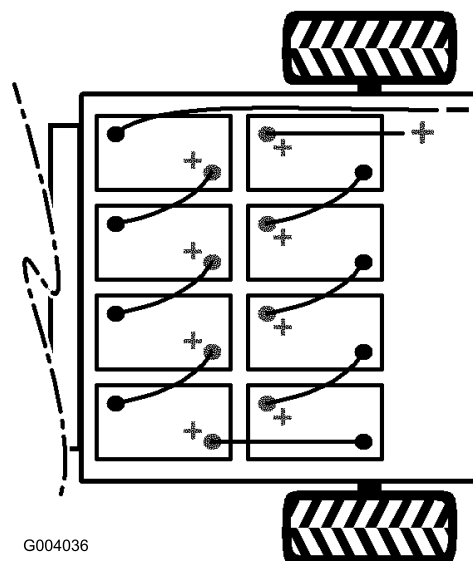

Figure 29
2. Disconnect the long, black, main negative lead running from the bank of batteries to the machine from the battery post (Figure 29).
3. Remove the long, red, main positive lead running from the bank of batteries to the machine from the battery post (Figure 29).
Note: Pay attention to the battery polarity when installing the new batteries (Figure 29).
9. Connect the batteries together with the battery cables removed previously, as shown in Figure 29.
10. Connect the long, red, main positive lead between the bank of batteries and the machine (Figure 29).
11. Connect the long, black, main negative lead between the bank of batteries and the machine (Figure 29).